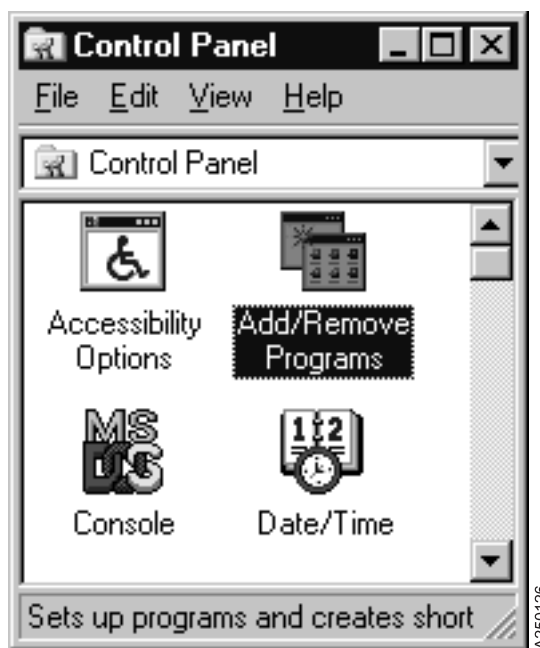

Figure 22. Control Panel Selection
6. Click **Add/Remove Programs** in the **Control Panel**. See Figure 22.